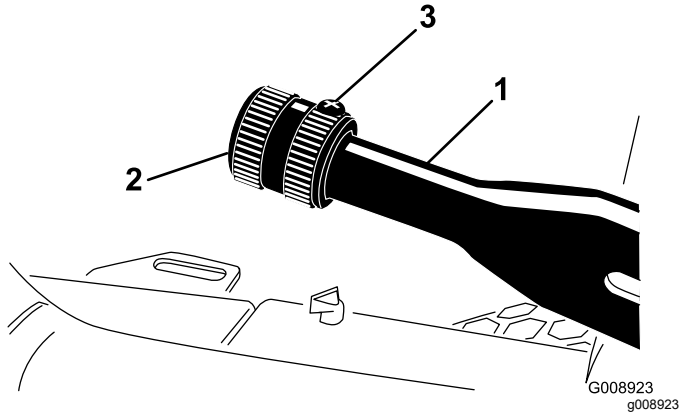

Figure 61
1. Loosen the setscrew securing the knob to the parking-brake lever (Figure 61).